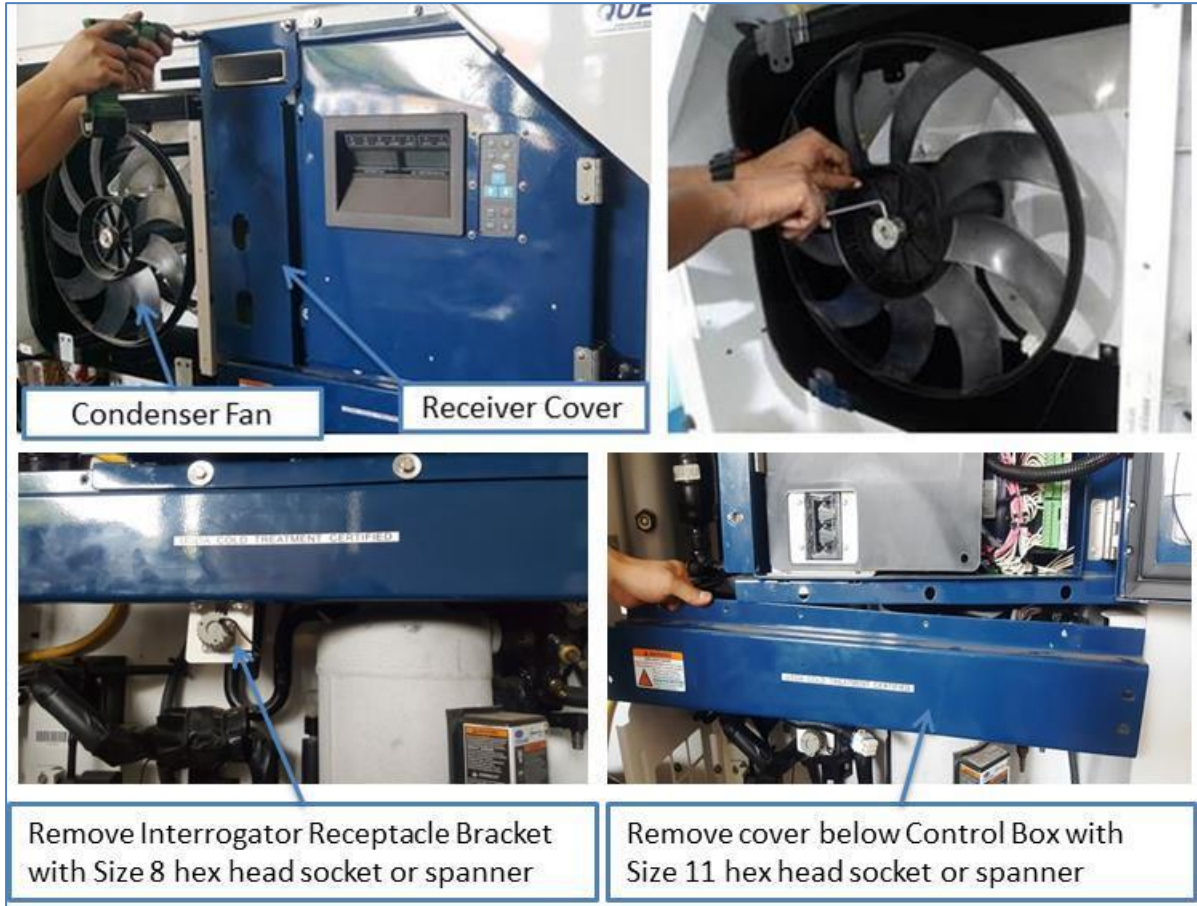

Figure 2
- 1.2 Dismantle the condenser cover, the condenser fan (Use a size 4 Allen key, the receiver cover and the cover below control box (Figure 2).